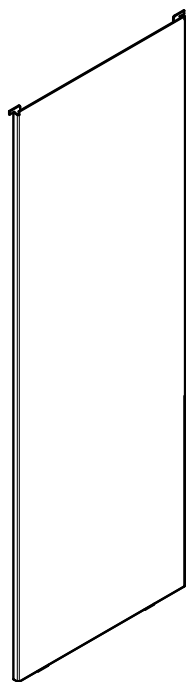
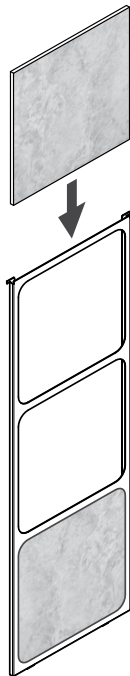

Figure 21.1
Figure 21.2
Your appliance ships with two different side options, one is a solid side panel (**Figure 21.1**) and tile side panel (**Figure 21.2**). There are two of each and no left or right side, these can be changed at anytime.
3. Stack non-combustible material tiles in tile frame as shown in **Figure 21.2**.